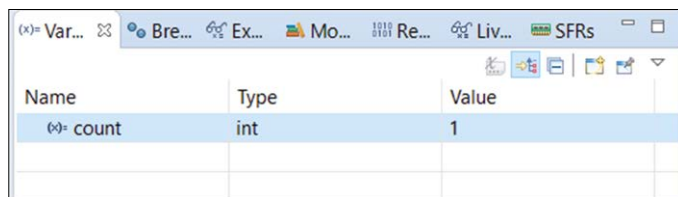

Figure 14.5: Variable 'count' is incremented.
- After executing the line containing statement **count++**, you should see variable **count** incremented to 1 at the top right pane of the screen. Make sure **Var...** (i.e. **Variables**) tab is selected (Figure 14.5).